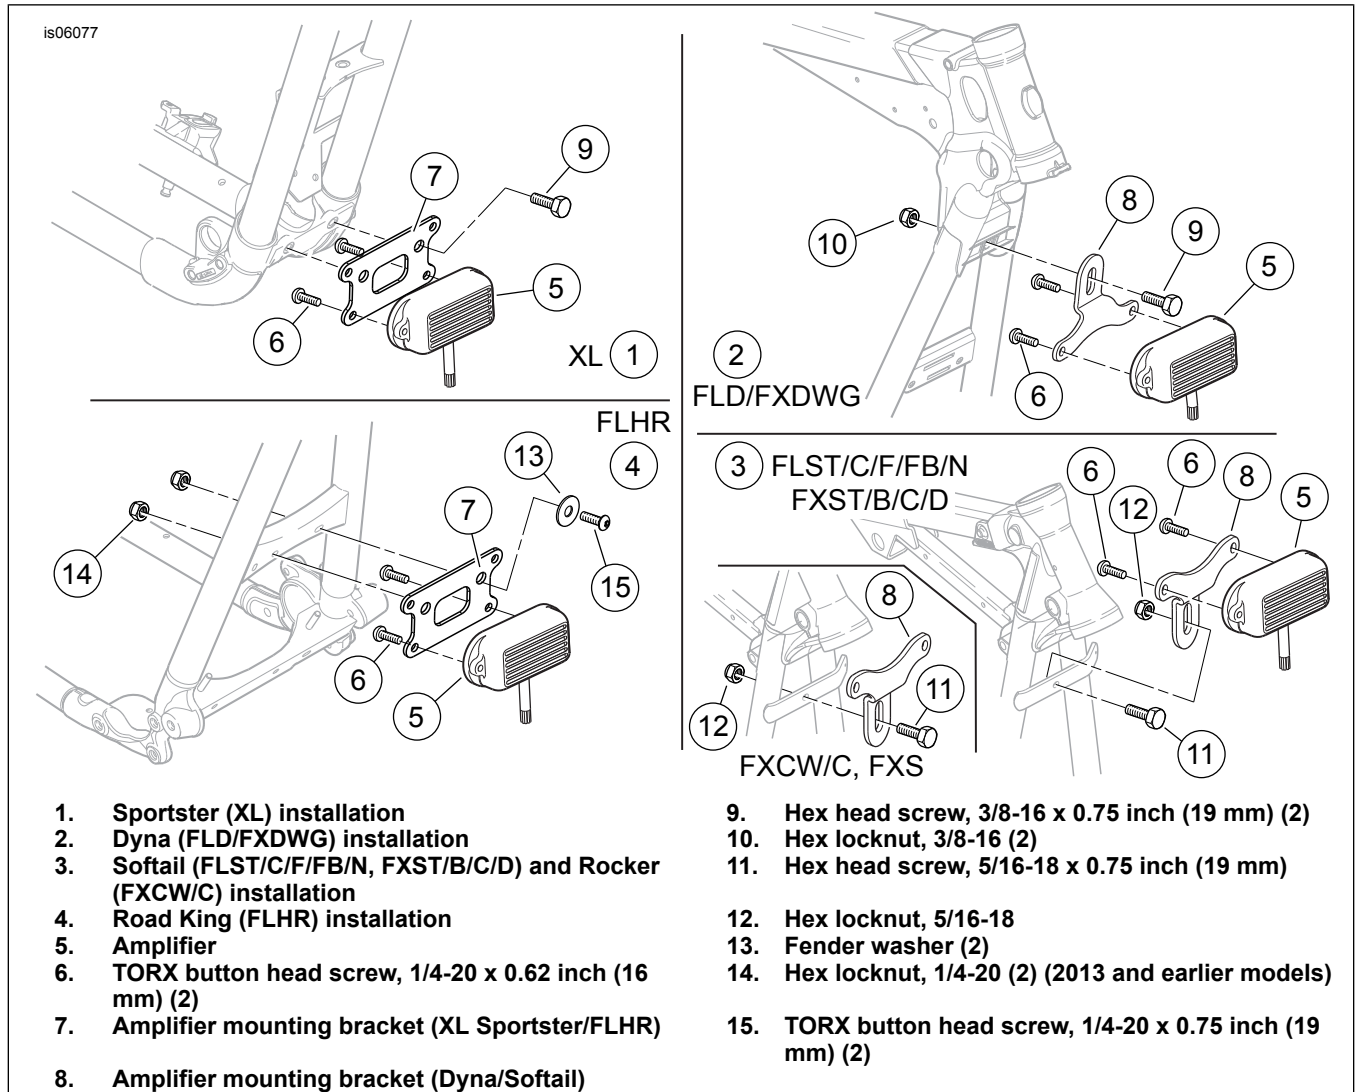

Figure 1. Amplifier and Bracket Installation
2. See Figure 1. Install the amplifier (5, part of the wire harness assembly) to the bracket with the screws (6), and tighten to 7.4 N·m (65 in-lbs).
- See Figure 1. Install the amplifier and bracket to the frame crossmember between the front down tubes as shown.